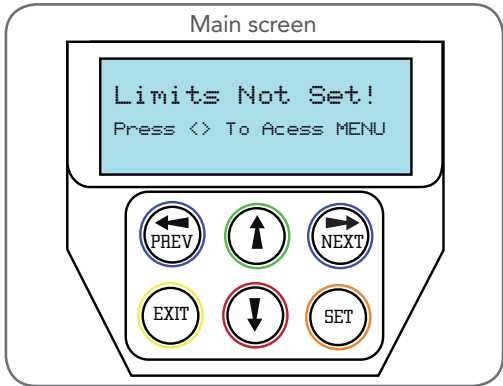

Fig 7.3
- b. If this is the first time the DCB-05V2 has been used, the MAIN SCREEN should indicate that the limits are not set (Fig. 7.3). If the display shows that some input is active then rectify the situation before proceeding. If a default setting is to be changed it should be done now before setting the travel limits.